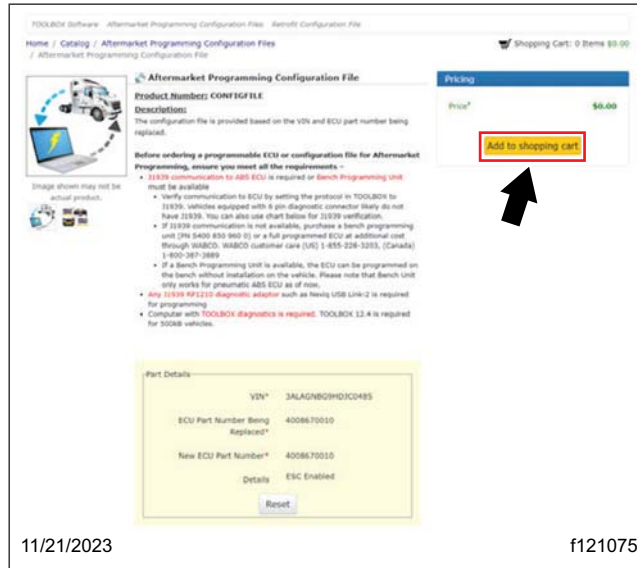

Fig. 11, Adding Configuration Files to Shopping Cart
15. The configuration file details for the VIN and ABS ECU part number combination will be displayed. Verify the VIN and part number, then select 'Add to shopping cart.' See Fig. 11.